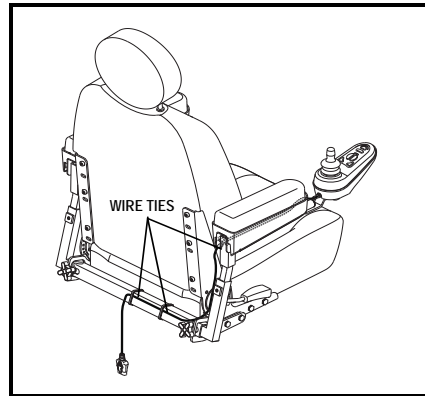

Figure 13. Controller Routed on a Contour Seat
9. Secure the controller harness to the armrest receiver with wire ties. **See figure 13.**